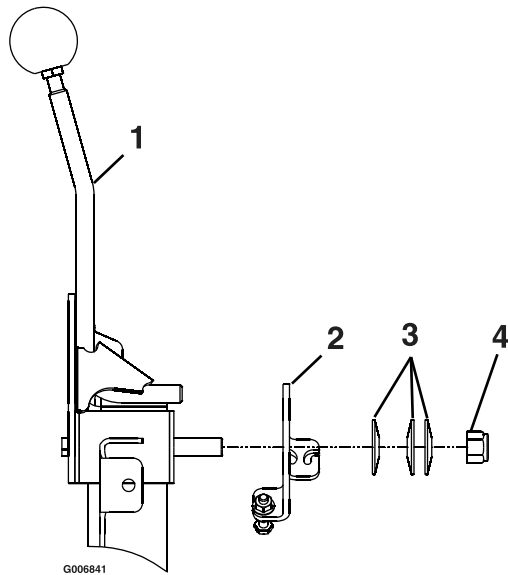

Figure 15
2. Tension in speed control lever can be adjusted by adjusting the tightness of the lever pivot bolt, which is located under the seat near the speed control lever (see Figure 15).